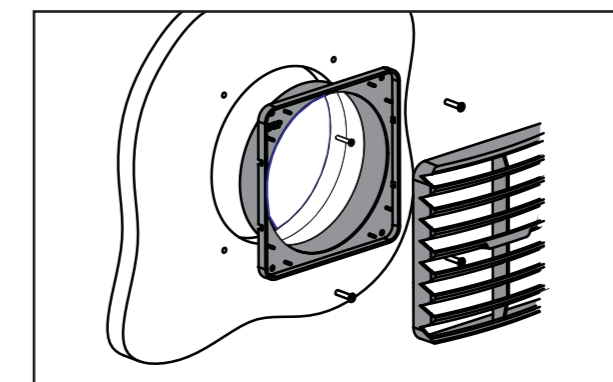

Fig 17.
4. Fix grille base with four 6 G screws and snap fit the grille louvres over the grille base. (Fig. 17).